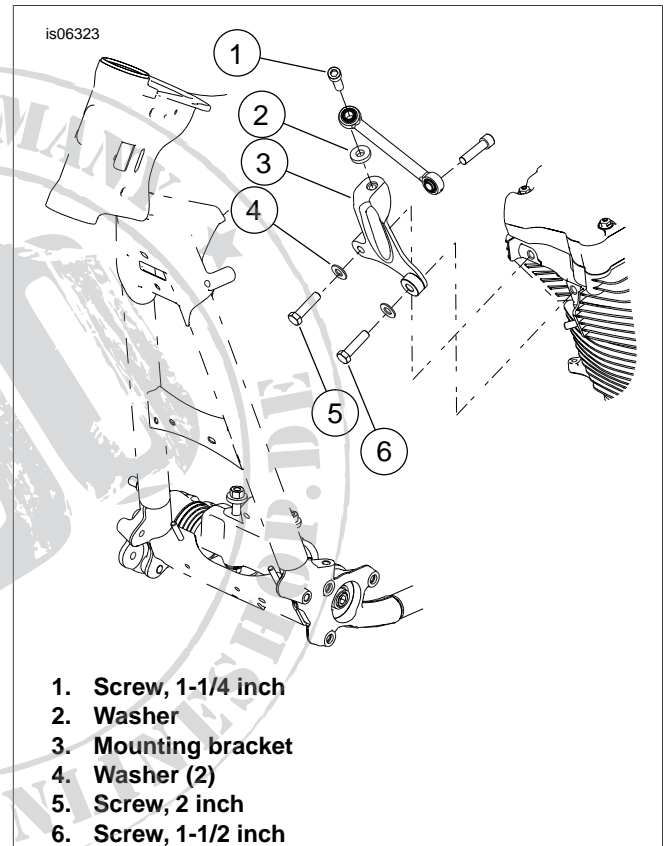

Figure 2. Remove Front Engine Mounting Bracket
1. See Figure 2. Remove the right side screw (1) and washer (2) from the front stabilizer link. Save the screw and washer for reuse.
2. Standing on the left side of the motorcycle, remove two hex head screws (5 and 6) and flat washers (4) to release the top engine mounting bracket (3) from the front cylinder head.
3. Apply a few drops of Loctite 272 to the new bolts in the kit and install the new engine mounting bracket with the long screw (5) and washer on the right side and the short screw (6) and washer on the left side of the bracket. Tighten bolts to 30-35 ft-lbs (40.6-47.4 Nm).
4. Apply a few drops of Loctite to the screw (1) and install the screw and washer (2) to the stabilizer link and engine mounting bracket and tighten to 18-22 ft-lbs (24.4-29.8 Nm).